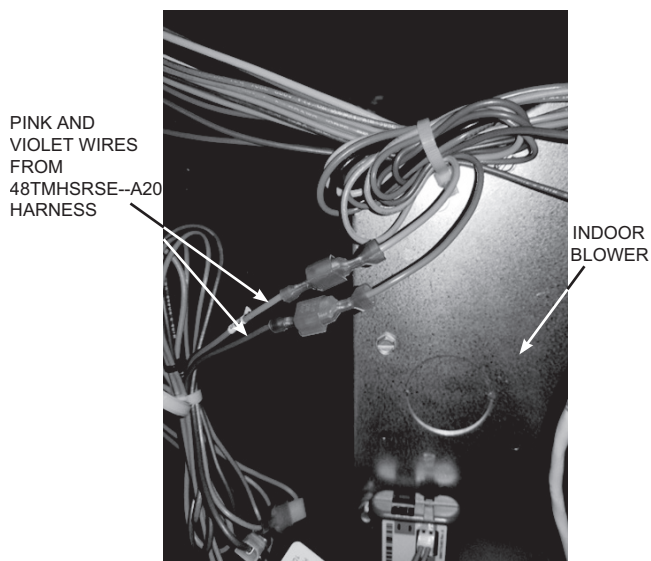

Fig. 16 — Connect Pink and Violet Wires in Indoor Blower Section
20. Connect the pink and violet wires from the 4-wire 48TMHSRSE--A20 harness to the pink and violet terminals in the wire bundle in the indoor blower section. See Fig. 16 and page 9.